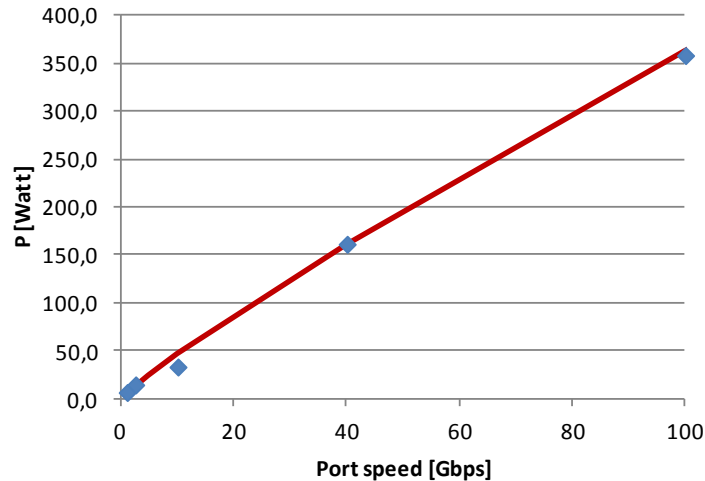

Figure 2 Power consumption of the OTN layer interfaces, per port
- As can be seen in Figure 2, the values scale quite smoothly with the port speed.
This line is also indicated in Figure 2.